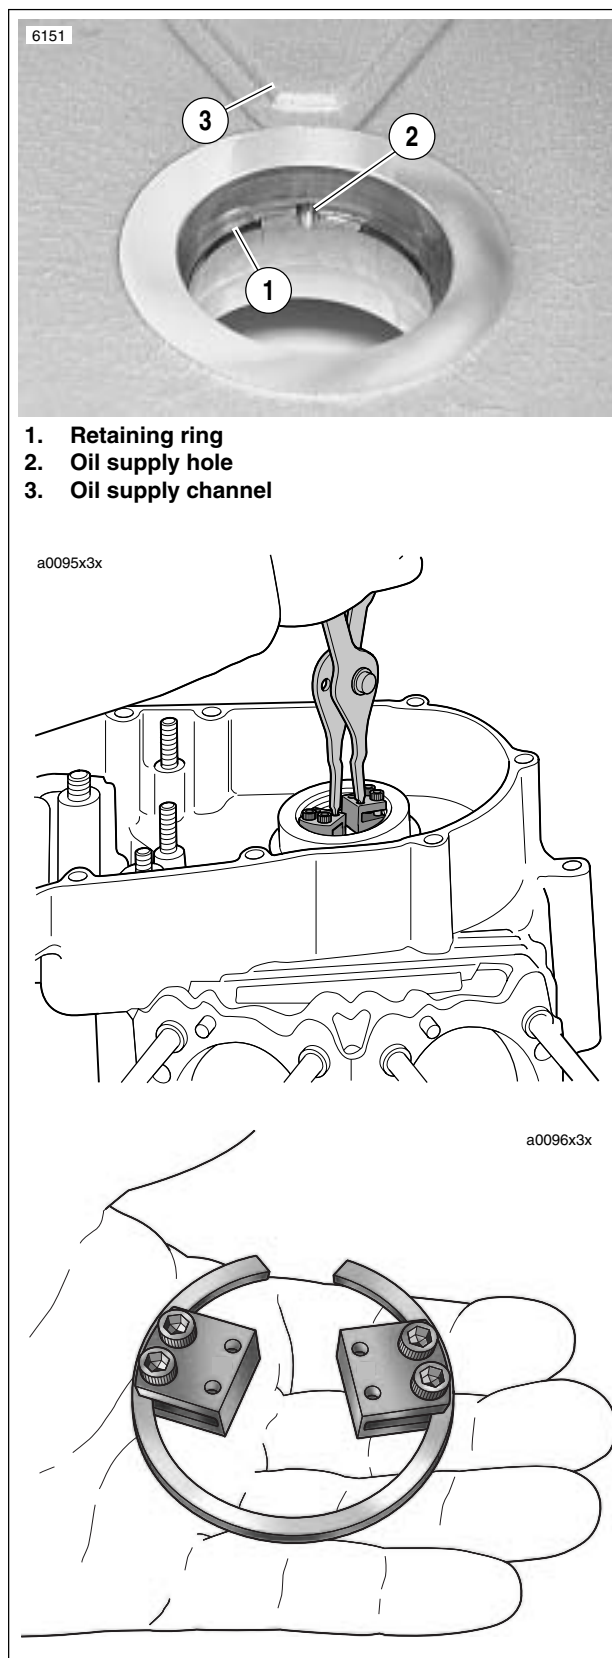

Figure 3-126. Snap Ring Installation Using Retaining Ring Remover/Installer (Part No. HD-44069)
1. See Figure 3-126. Install **new** snap ring to crankcase bore (if bearings were replaced).